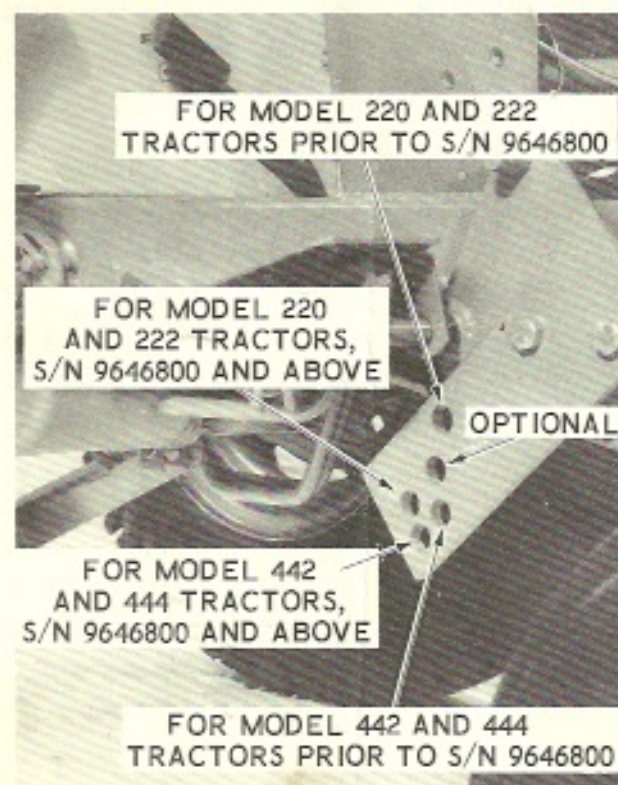

Figure 1. Lift Lever Extension Plate. .
1. LIFT LEVER EXTENSION - See Figure 1
Five Lift Arm Mounting holes are provided in the lift lever extension plate, Figure 1. The lowest hole is used with